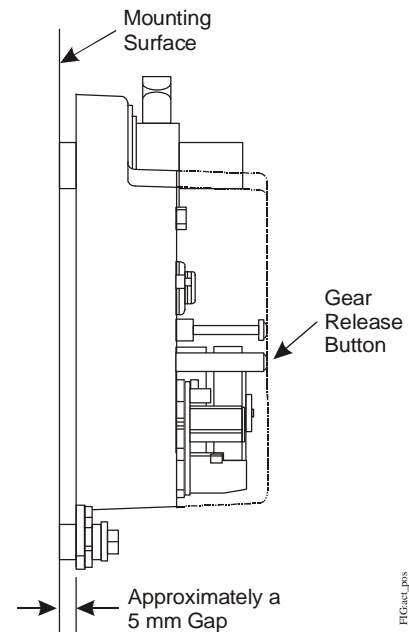

Figure 5: Positioning the Actuator
6. Be certain that the actuator is in the desired mounting position parallel to the mounting surface, as illustrated in Figure 5.